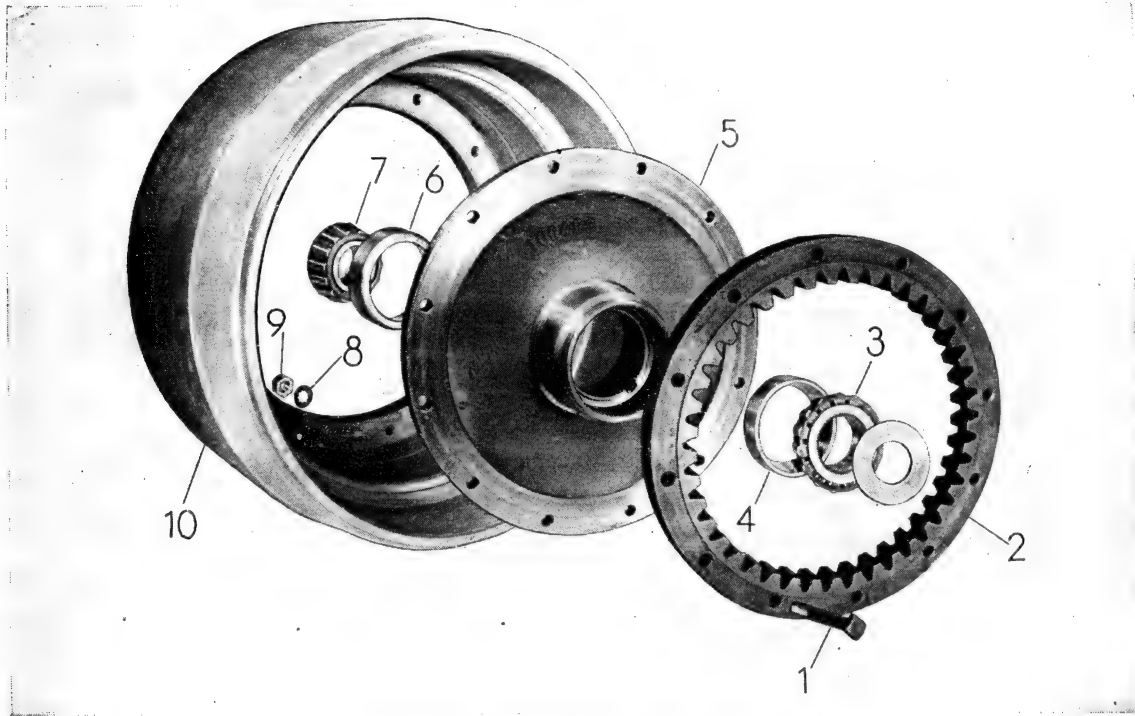

Figure 24 — Drive Wheels and Tires
**GAS CARLOADER****613491 DRIVE WHEELS AND TIRES (Fig. 24)**